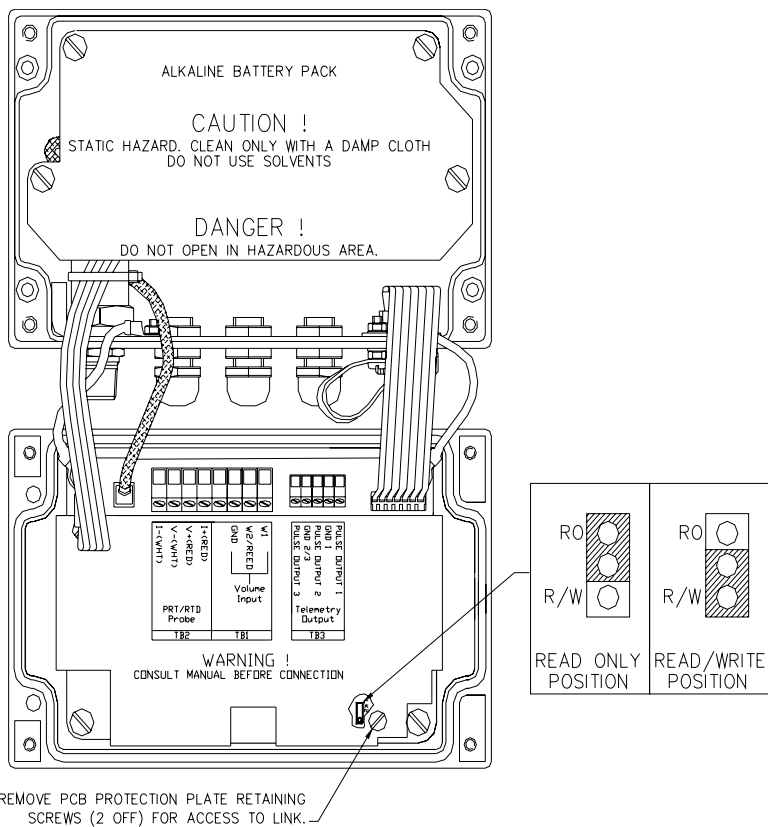

Figure 4 – Setting the Weights and Measure Link (Hardware Link).
5. Identify the **Read / Write** protection link; remove from the **Read Only** position and replace in the **Read / Write** position. Refer to Figure 4 (**Setting the Weights and Measures Link**).